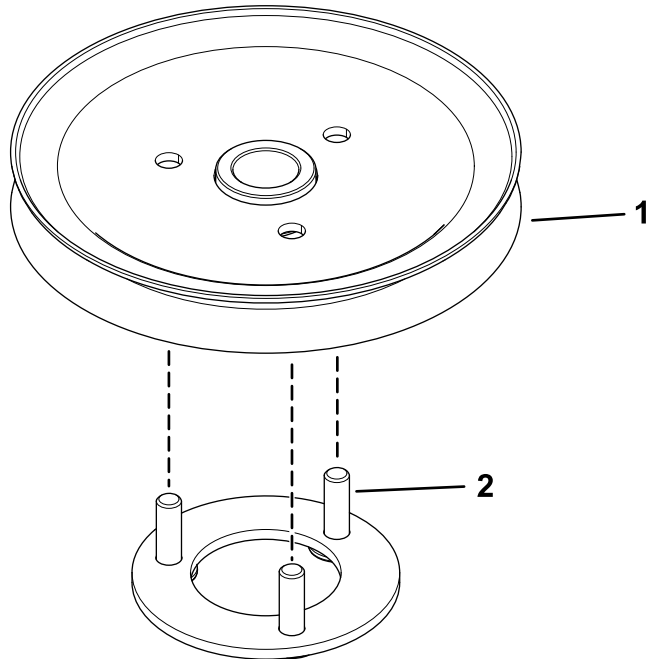

**Figure 6**
2. Remove the top nut, washer, and sheave from the spindle (Figure 6).